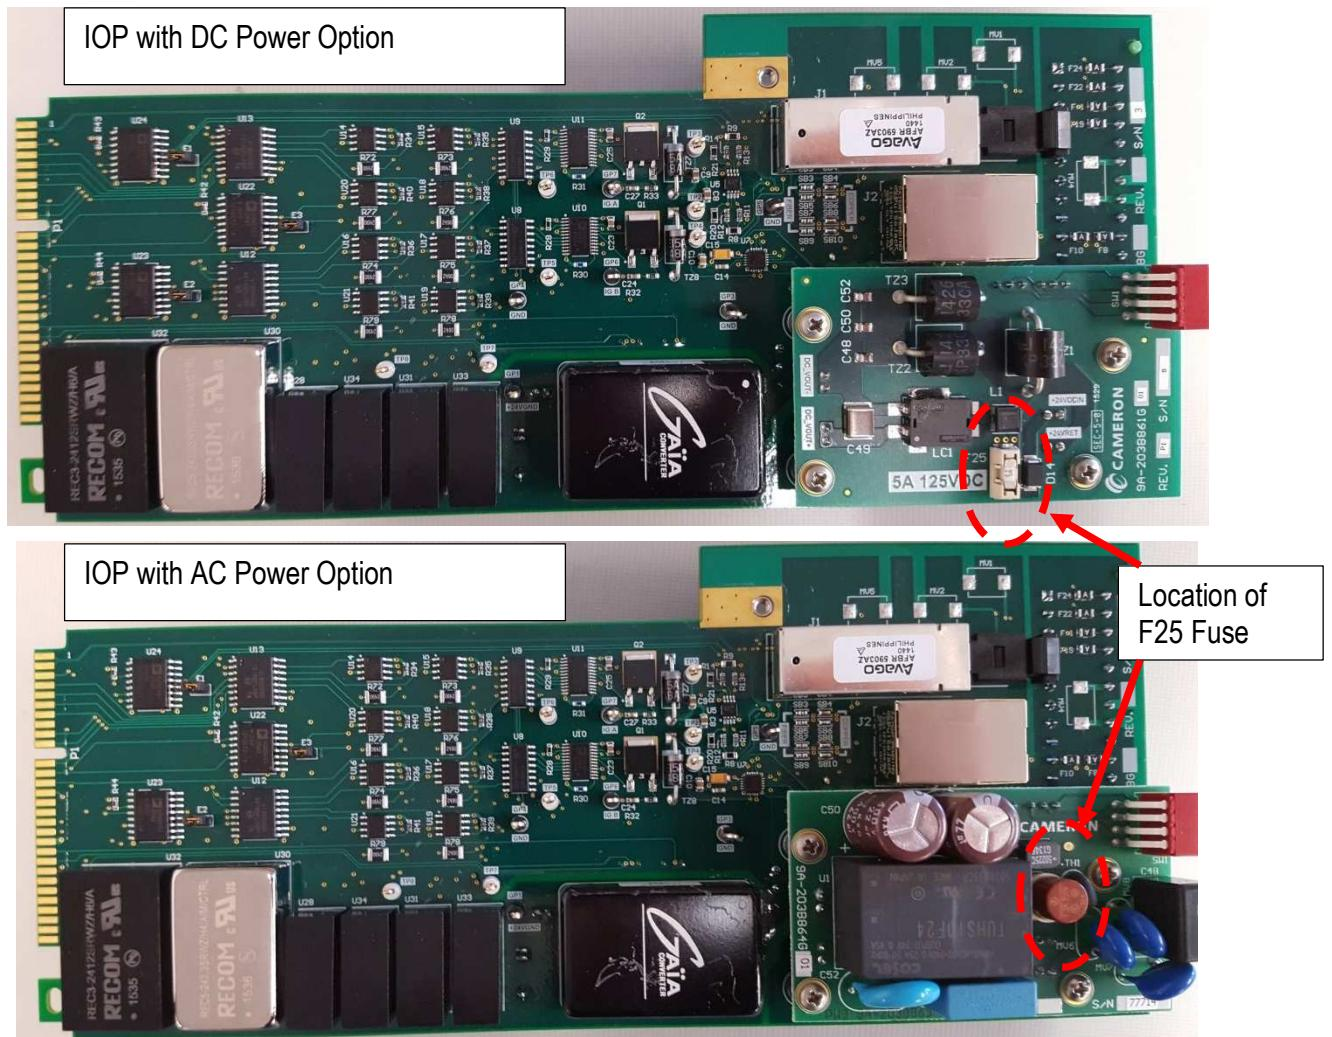

Figure 7-3 Location of IOP/F25 Fuse
- Locate the IOP/F25 fuse. (Note – the fuse protects the electronics from errant wiring of power to 120/230 VAC). The F25 fuse is on the same side of the IOP board as the plug-in connectors, near the power inputs (TB1). Refer to Figure 7-3 below.